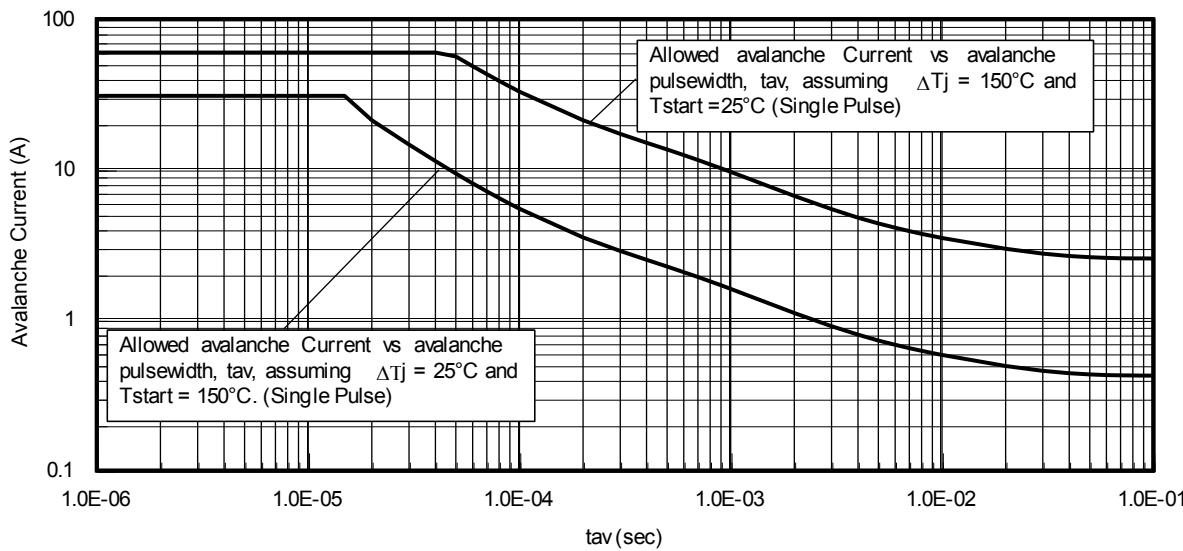

Fig 15. Avalanche Current vs. Pulse Width
| I_{AR} | Avalanche Current ① | See Fig 15, 16, 23a, 23b | A |
Notes on Repetitive Avalanche Curves , Figures 15, 16: (For further info, see AN-1005 at www.irf.com)
7. ΔT = Allowable rise in junction temperature, not to exceed $T_{j\max}$ (assumed as 25°C in Figure 15, 16).